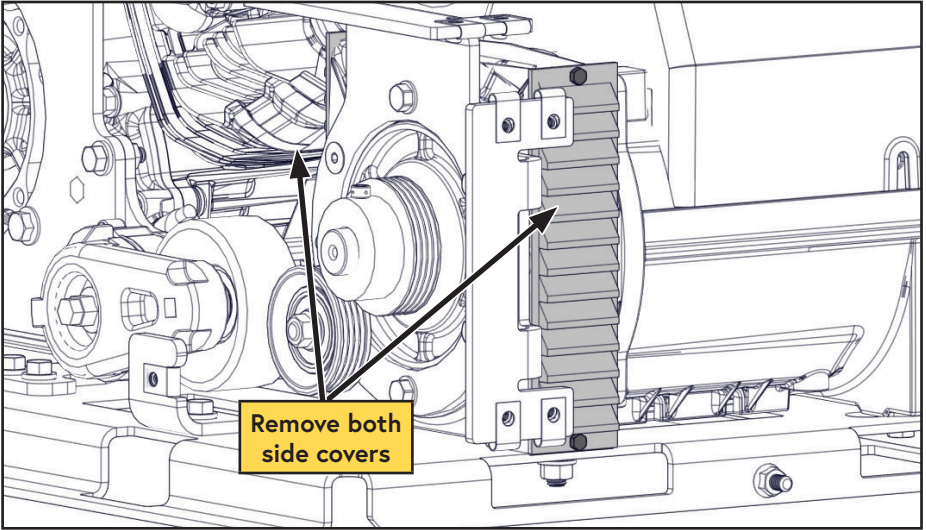

Figure 82 — Remove side covers
- Remove both of the louvered side covers (Figure 82).